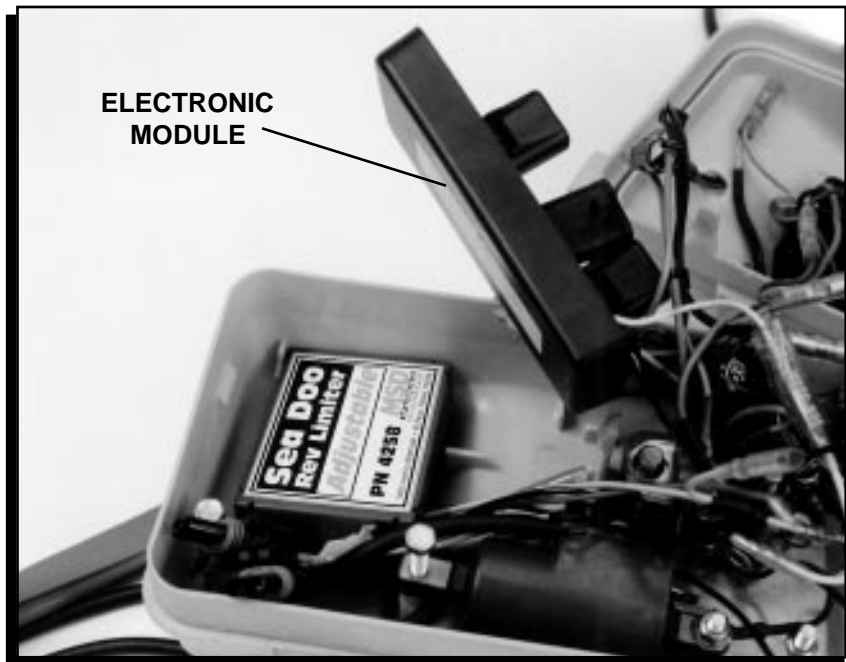

Figure 1 Mounting the MSD Rev Limiter.
3. Unlatch the Electronic Module assembly from its mount (Figure 1).